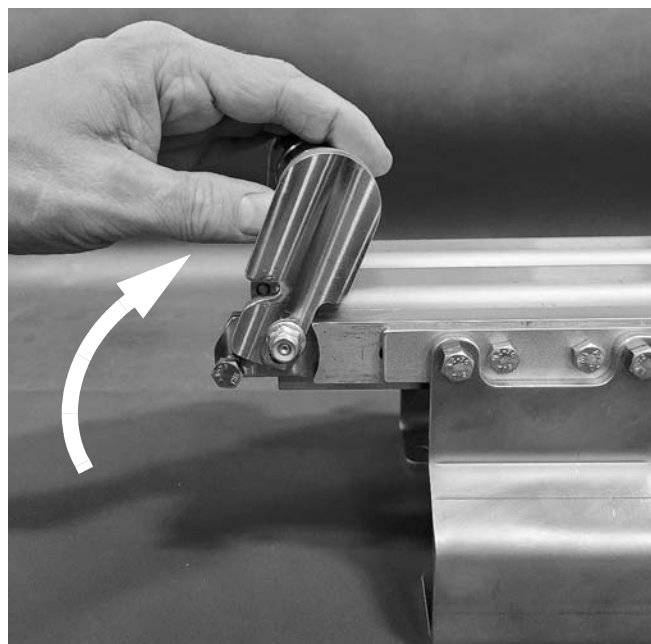

Figure 9
2. Rotate idler tail up (**Figure 9**).